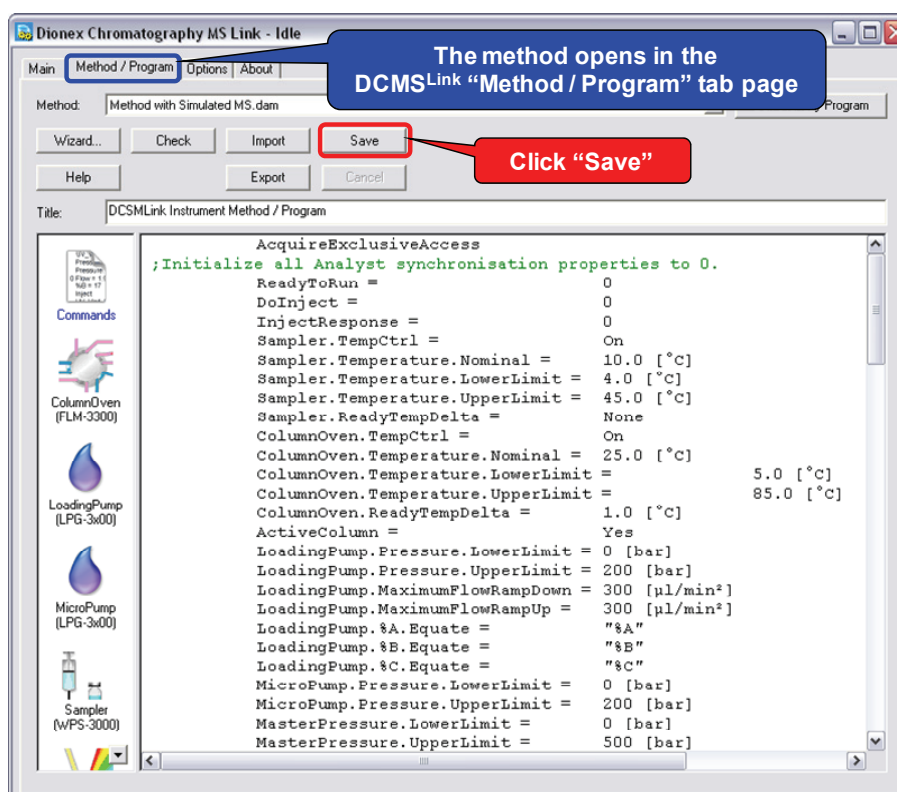

Fig. 17: The LC part of the new method opens in the DCMS^{Link} "Method / Program" tab page.
6. The LC part of the Method appears in the DCMS^{Link} “Method / Program” tab, (Fig. 17).
8. Click “**Save**” (Fig. 17) to save the Method.